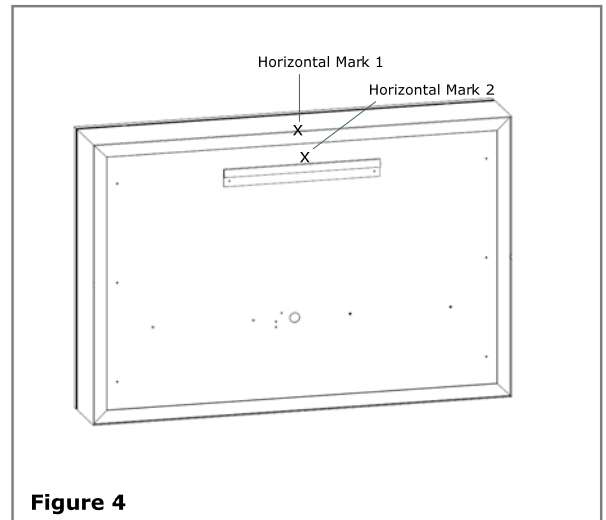

Figure 4
1. Hold the unit against the wall in the desired location and mark the position of the top center of the unit. Next measure the distance from the top of the unit to the top of the hanger on the back of the unit. **See Figure 4.**